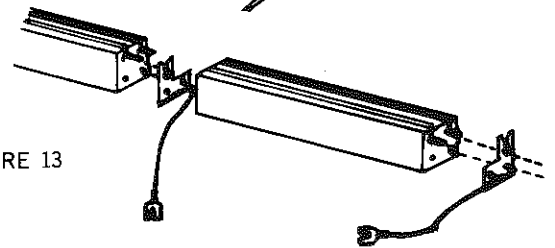

FIGURE 13
□ Turn the connector of the second wire in the opposite direction to the first. (Fig. 13) Fit the connector to the next piece of straight track so that the slot snaps on the **opposite rail**. **The two connectors must not fit on the same rail**, or the train will not operate. Join the tracks so that the connectors are clamped in the joints between the back sections. Then press them in to the "D" stanchion and the stanchion stub.